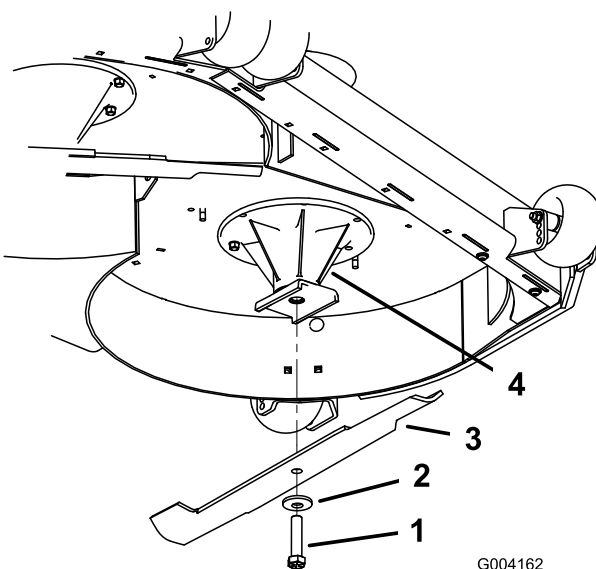

Figure 4
3. Install the blade to the spindle with a blade bolt (5/8 x 2-1/4 inches) and large curved washer (Figure 4).